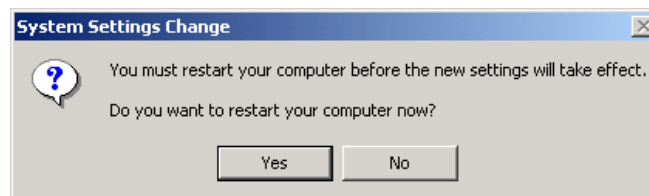

Figure 1-127. Reboot Computer Dialog
10. The "System Settings Change" popup is displayed (Figure 1-127). Click **Yes**. The AFR-I 01 will reboot.